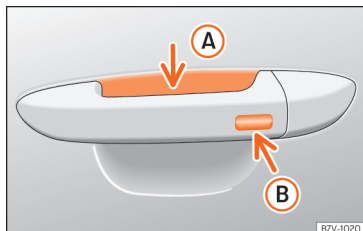

Fig. 51 Driver door handle: sensor surfaces.
»» Fig. 51
- Touch the sensor surface >>> Fig. 51 Ⓑ on the outside of the door handle. All turn signals flash once.
- Within 5 seconds, touch the sensor on the outside of the door handle >>> Fig. 51 Ⓑ once. Do not grip the handle while doing so. This temporarily deactivates the Keyless Access system.
To close all the electric windows and the sunroof using the **comfort function**, keep a finger for a few seconds on the locking sensor surface >>> Fig. 51 Ⓑ of the door handle until the windows and roof have closed.